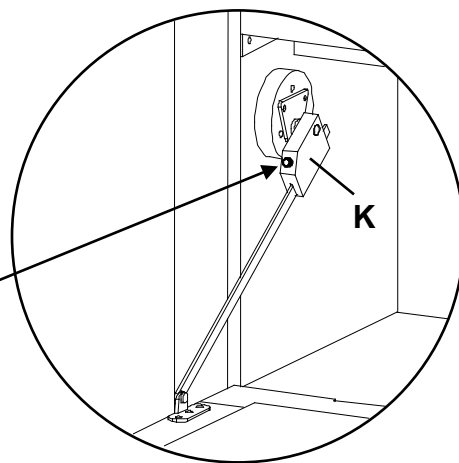

Fig. 6
- To adjust the brake tension on the Door Stay (K) turn the screw on the Door Stay clockwise to loosen or counterclockwise to tighten. See Figures 6 and 6a.